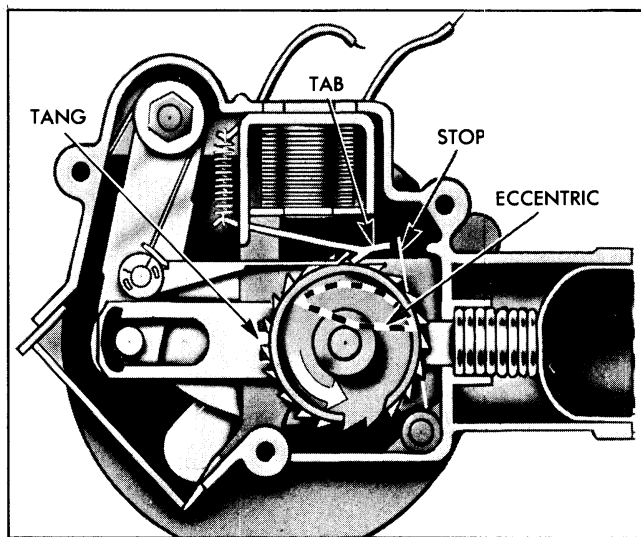

Fig. 11-110 Pump Stop
When the washer button on the dash is pushed in to start the washer the circuit to the washer pump relay coil is closed to ground. The relay armature then pulls in and is held in the energized position by a wire stop (Fig. 11-110).
1. Connect 12 volt supply to one washer terminal and ground the other. Manually rotate the rotor cam and observe if relay armature pulls in (Fig. 11-110). Failure of relay to pull in indicates an open relay coil or poor solder connections.